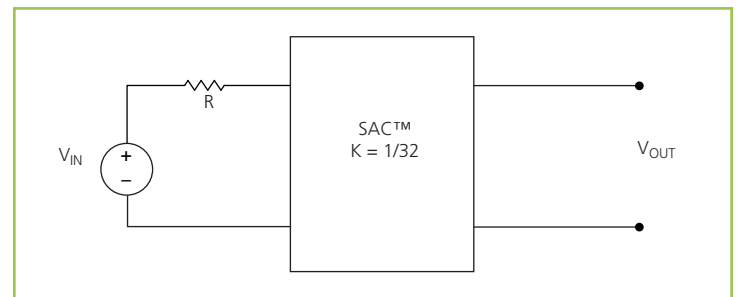

Figure 18 – K = 1/32 Sine Amplitude Converter with series input resistor
The use of DC voltage transformation provides additional interesting attributes. Assuming that $R_{OUT} = 0 \Omega$ and $I_Q = 0 A$, Eq. (3) now becomes Eq. (1) and is essentially load independent, resistor R is now placed in series with V_{IN} as shown in Figure 18.
Assuming that $R = 1 \Omega$, the effective R as seen from the secondary side is $1 \text{ m}\Omega$, with $K = 1/32$ as shown in Figure 18.